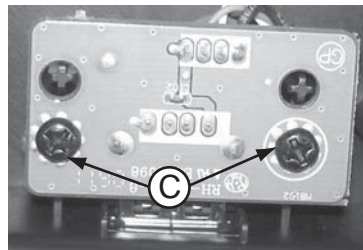

Figure 3
- 1) Loosen 2 screws "C" on the top of WIFI board as shown in figure 3.